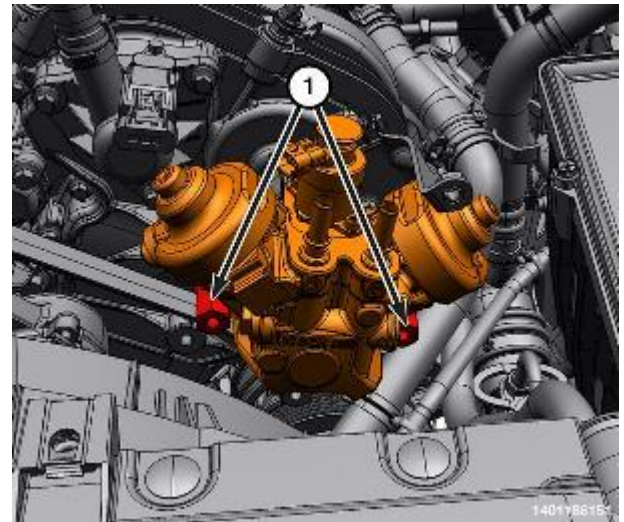

Figure 132 – Fuel Quantity Solenoid Connector and HPFP Upper Bolts
- 70. Remove the upper bolts (1) from the high-pressure pump (Figure 132). Using Tool, High Pressure Pump Installation VM.10345 Install the studs in the upper locations.
- 82. Tighten the bolts (1) that secure the fuel injection pump to 25 N·m (18 ft. lbs.) (Figures 132 and 133).